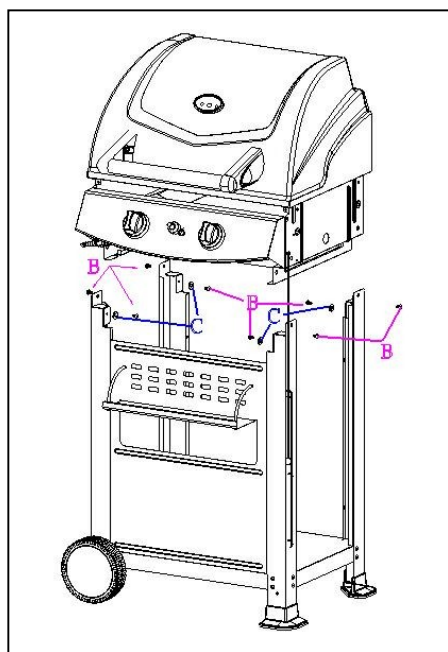

Figure 4
- STEP 4.** Secure the Base Assembly to the Cart Assembly by screws and washers. (Fig. 4)